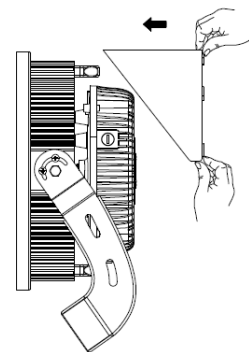

FIG. 3
- 2) Flip the visor and slide back onto the fixture from the back [Fig.3].